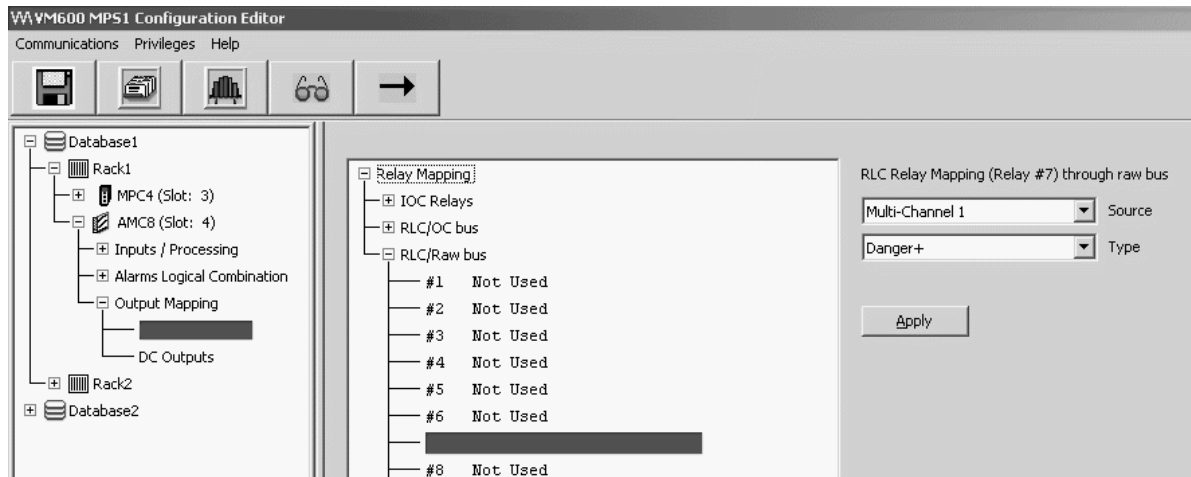

Figure 10-17: VM600 MPS software window to configure the Raw Bus
- 6- Using the VM600 MPSx software, select the **Discrete Outputs** node (a child of the **Output Mapping** node) in the tree structure (left). Then expand the **RLC/Raw bus** node in the main window (right) and select the relay in question (between 1 and 16). See Figure 10-17.
The user must then use the VM600 MPSx software to select Relay 7 from the 16 relays available in the **RLC/Raw bus** node. Then, the Danger+ alarm for Multi-Channel 1 can be assigned to this relay (see Figure 10-17).